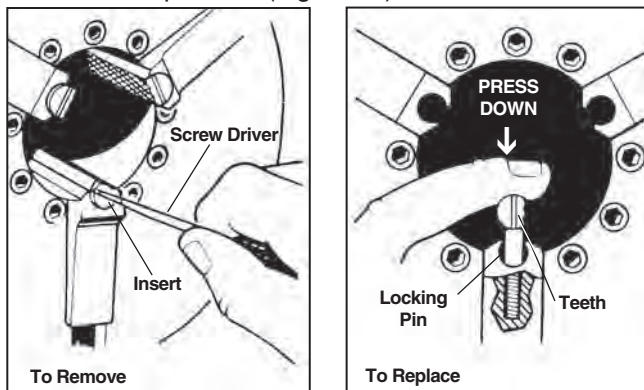

Figure 30 – Replacing Jaw Inserts
1. Place screwdriver in insert slot and turn 90 degrees in either direction. Remove insert (*Figure 30*).
2. Place insert sideways on locking pin and press down as far as possible (*Figure 30*).